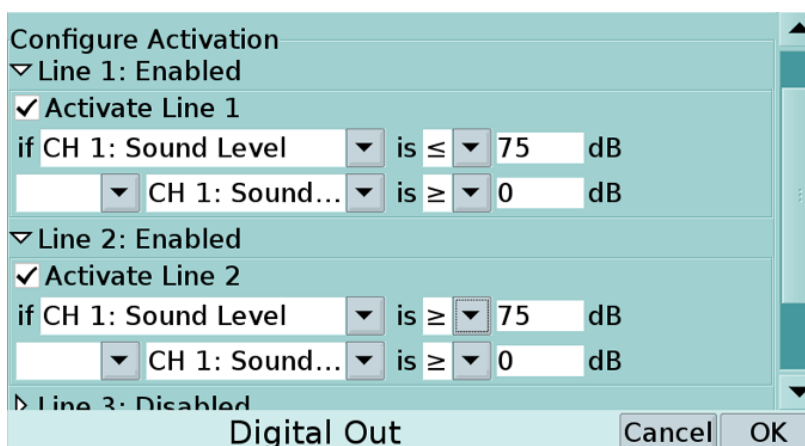

Figure 7
4. Configure two of the three output lines as shown in Figure 7.